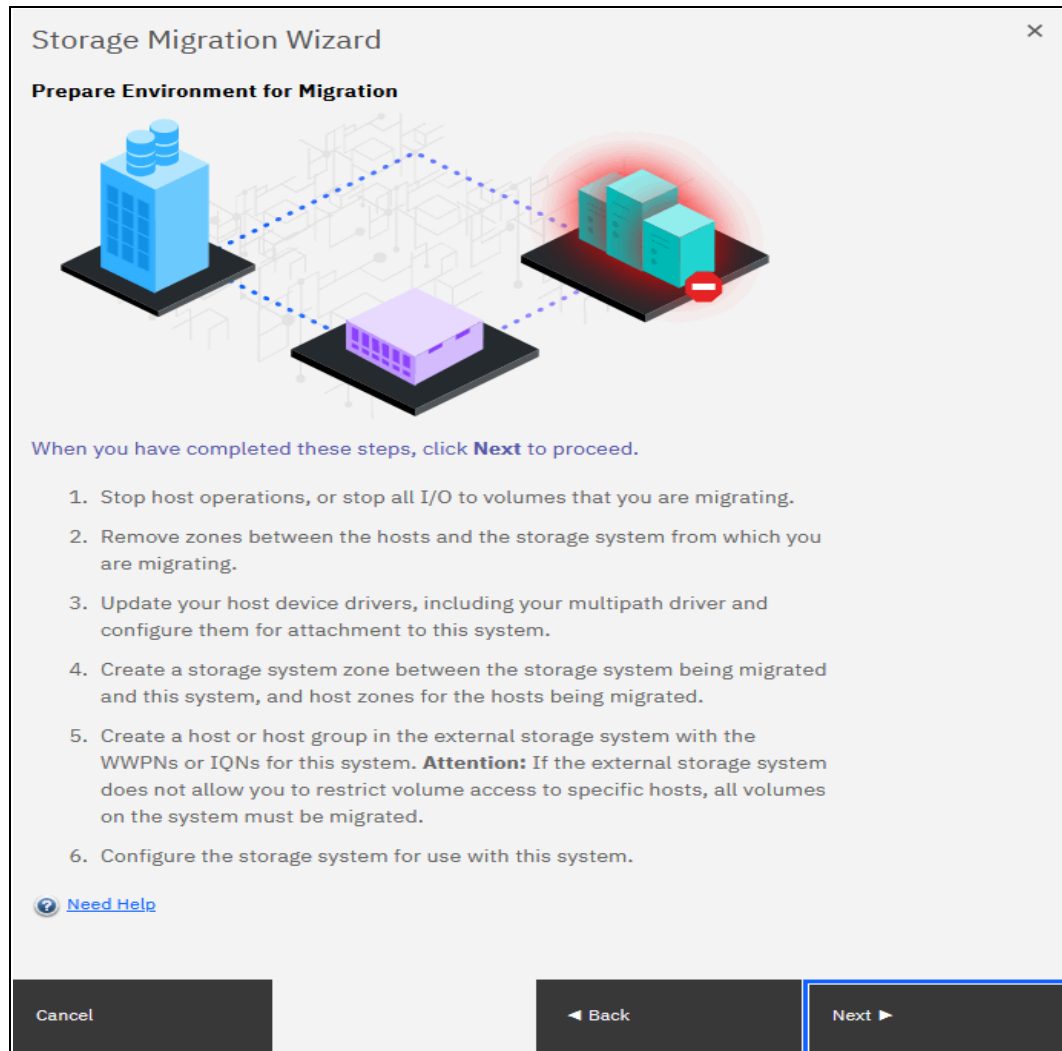

Figure 8-5 Preparing your environment for storage migration
5. Prepare the environment migration by following the instructions that are shown in Figure 8-5.